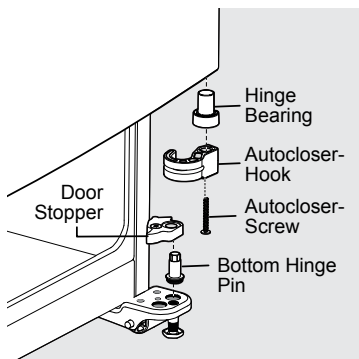

Figure 3
8. Remove the door stopper screw using a T25 Torx Head screwdriver and remove door stopper (see Figure 3).
9. Unscrew the bottom hinge pin using an adjustable wrench (see Figure 3).